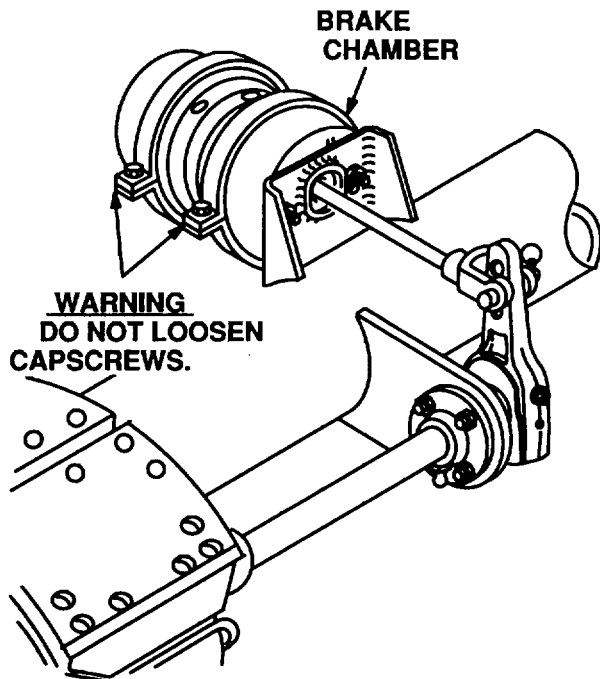

Figure 4-49. Brake Chamber Warning
(7) Pressurize air brake system and check for leaks.
**DO NOT attempt to repair brake chamber fail-safe unit, Fig. 4-49. It is dangerous since the spring is highly compressed. No repair is authorized for fail-safe unit.**